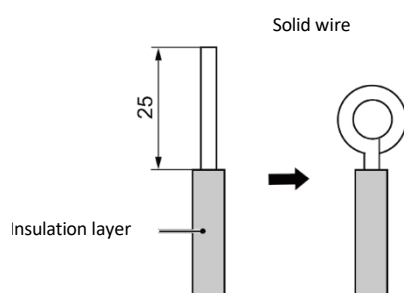
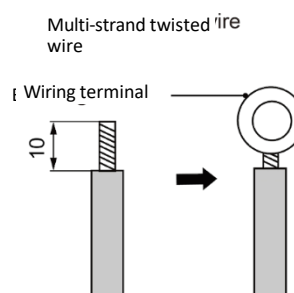

Fig. 5.1
Fig. 5.2
(1) Connecting the wire (as shown in Fig. 5.1)
- ① Strip approximately 25 mm of insulation from the end of the wire using a wire stripper and cutter.
- ② Remove the wiring screws from the terminal block.
- ③ Thread the wire end through the ring using long-nose pliers and secure the ring in place with the screw.
- ④ Use the screwdriver to tighten the terminal block.
(2) Connecting the stranded wire (as shown in Fig. 5.2)
- ① Strip approximately 10 mm of insulation from the end of the stranded wire using a wire stripper and cutter.
- ② Loosen the wiring screws on the terminal block.
- ③ Insert the wire into the ring terminal and tighten using the crimping tool.